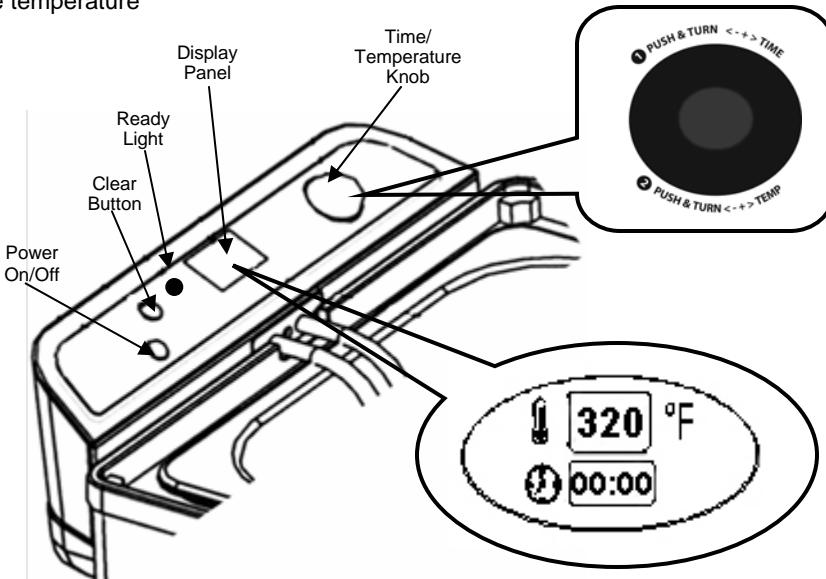

Fig. 6
- Press the power button (Fig. 6) and the unit will beep again. The upper screen display will show 320°F and the lower screen will display _:__. The "Ready Light" will now turn "Red".
indicator is flashing and turn the knob clockwise. When you press the knob, the unit will beep. If you want to lower the temperature, press and turn the knob counter-clockwise. When you press the knob, the unit will beep again. The upper screen will display the temperature that you set. The "Ready Light" will remain "Red" while the oil is heating to desired temperature. (Fig. 6) Once the oil temperature has been reached, the "Ready Light" will turn "Green" again and flash.